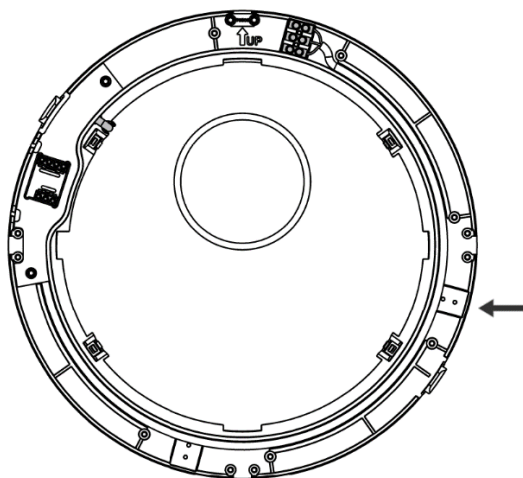

Figure 32 – New location of terminal 2 if cable connection to the right is required
3. Detach terminal 2 and connect it to the pins on the right side of the wall cover, see Figure 32 below.